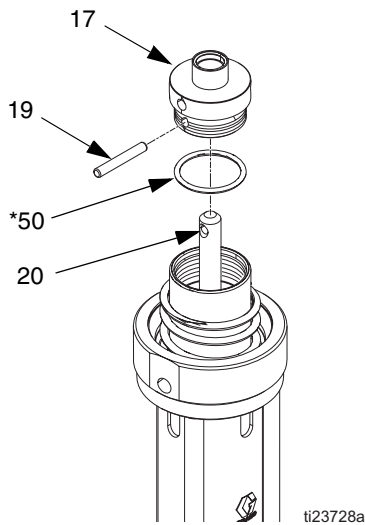

FIG. 14
- Remove dowel pin (19) and take piston cap (17) off transfer shaft (20). Remove o-ring (50\*) from piston cap. Inspect all parts for damage. See FIG. 14.